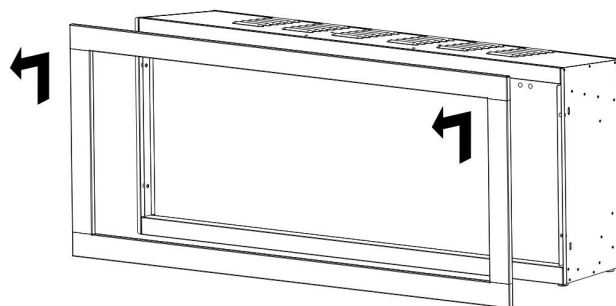

Fig. 1-2
B. Carefully lift the front trim up and away from the appliance (Fig. 1-2). Place it face down on a soft, non-abrasive surface.